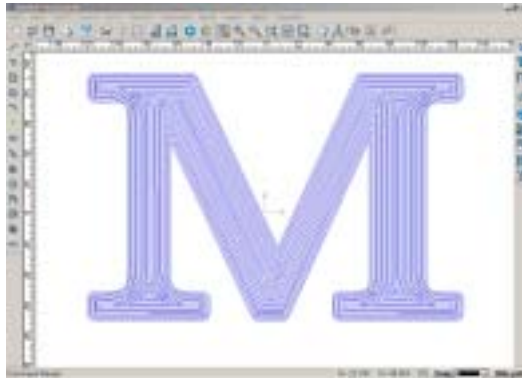

Fig. 10-53
3. Select a ball nose tool with a diameter of 6, height of 12, border of 0, machining height of 6, width of the default value 14.762, top angle of 0, bot angle of 0, overlap of 80%, anticlockwise, then the effect is shown in Fig. 10-53.